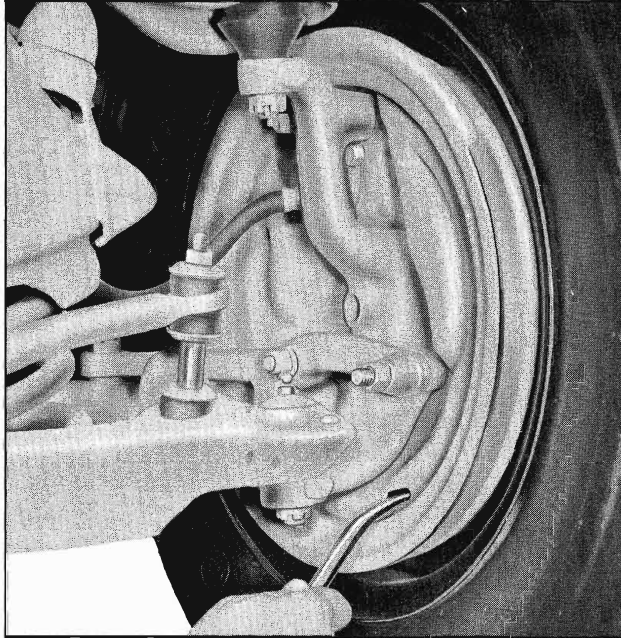

Fig. 5-6 Expanding Adjusting Screw
- a. Insert an adjusting tool in slot of the brake backing plate until it engages star wheel on adjusting screw and move outer end of tool upward to expand brake shoes (Fig. 5-6).